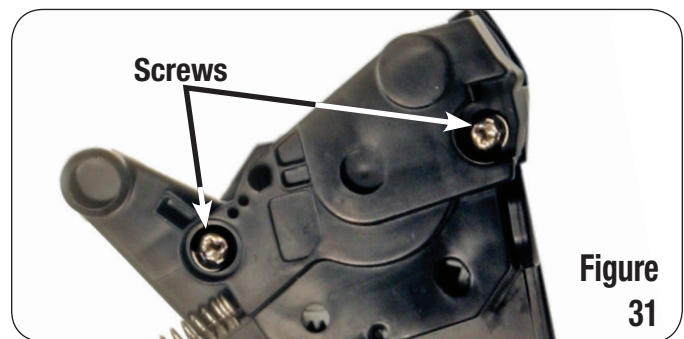

Figure 31
33. Install the new Static Control universal gear side end plate and secure with two Phillips screws (Figure 31).